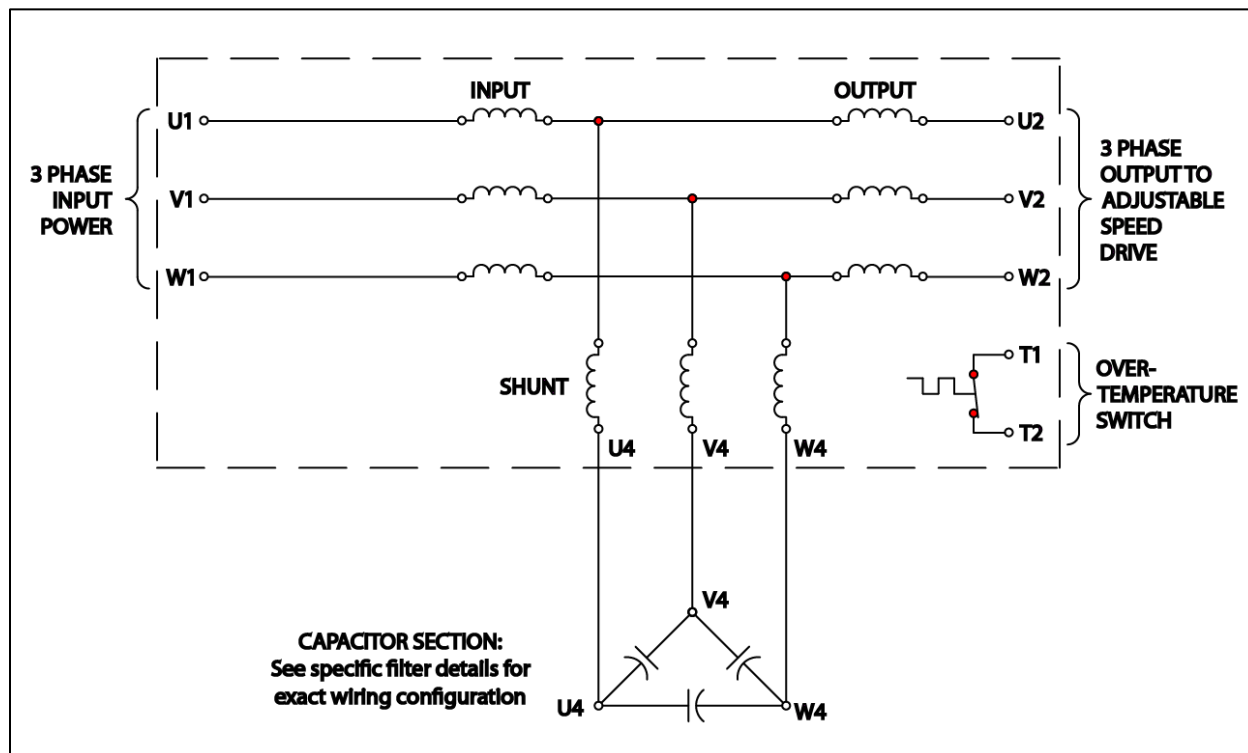
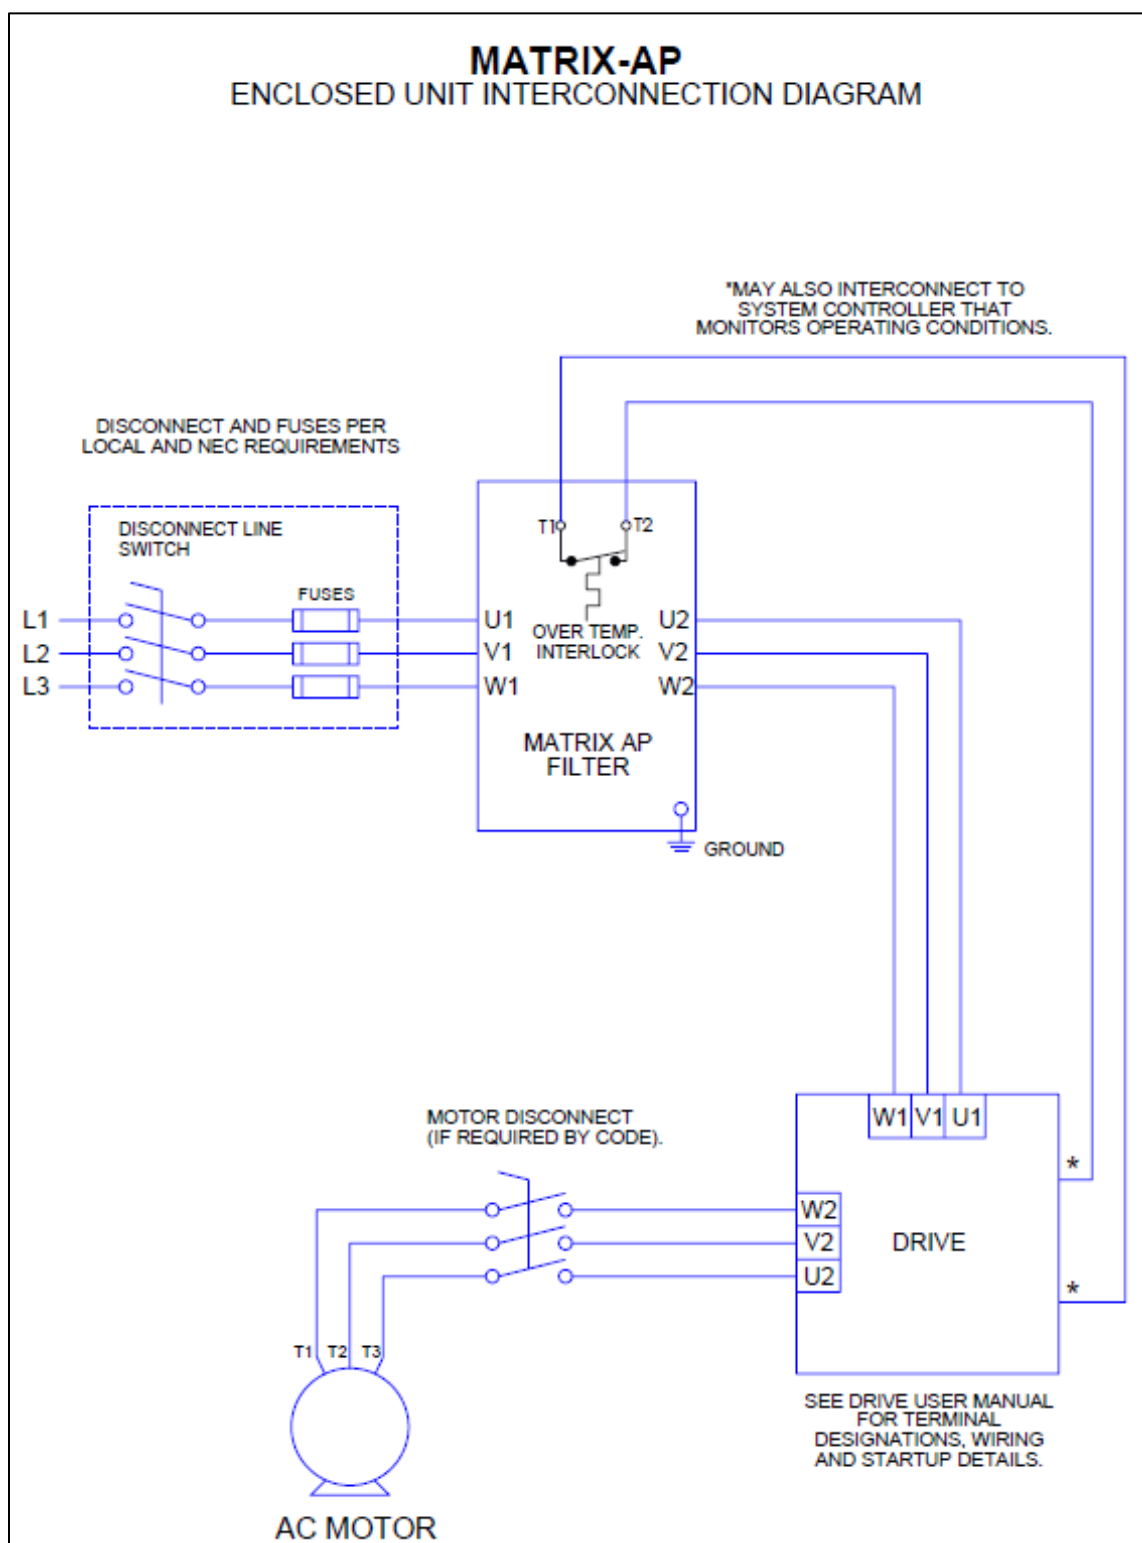

Figure 5-1: Basic Schematic Diagram
Figure 5-3: Enclosed Interconnection
- For filters supplied in general purpose NEMA 1/2 & NEMA 3R cabinets, interconnection between the filter, its power source, and the drive is shown in Figure 5-3: Enclosed Interconnection (p32).
Using Figure 5-1: Basic Schematic Diagram (p30) and Figure 5-3: Enclosed Interconnection (p32), visually check the wired components to confirm, verify, and correct wiring. Then, with a multi meter, check phase to phase isolation using the 100 K ohm range. The multi meter will read the parallel equivalent of the bleeder resistors after the capacitors initially charge. All phase to phase resistance values should be the same.